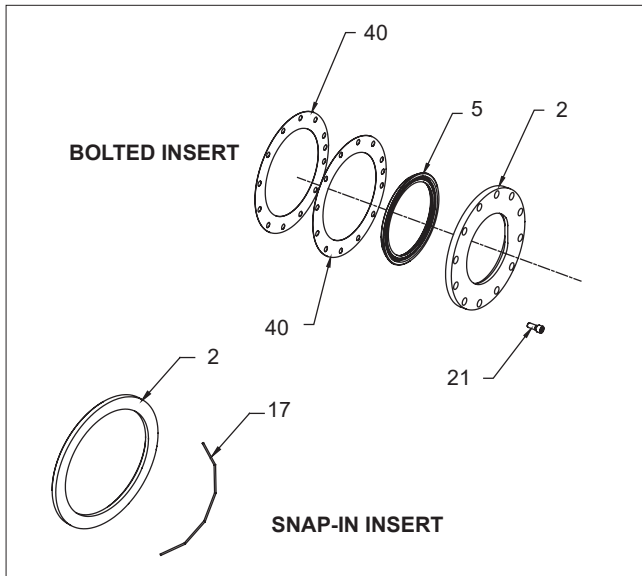

Figure 8.
3. Remove the seat (5), two body seals (40) and discard it.
8. Two body seals (40) are required between the seat tail and the body as shown in (Figure 8 & 14). The valve uses a graphite type gasket. This is installed in accordance with the following steps.
- c. Apply the two body seals (40) to the body, and if a lug style, take care to align the holes in the gasket with the insert screw holes.
9. Verify the disc is in the level position and install the seat (5) and insert (2) (See Figures 8 & 9).